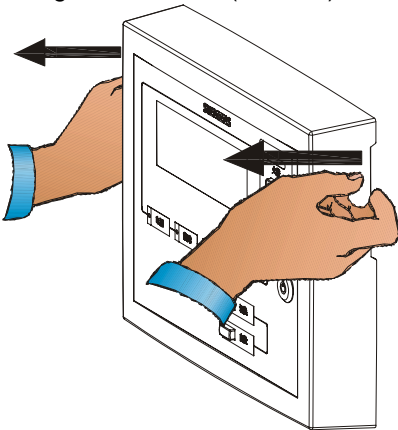

Fig. 6
4. Unlock with key and open the front panel (Fig. 6/7), tighten the screws and make sure the display is fixed firmly.